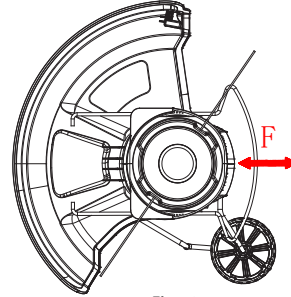

Fig. 13
3. Push&pull the wire guard to the appropriate location (Fig. 13)